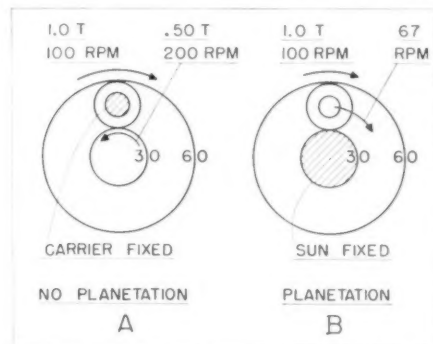

Fig. 11 A simple planetary gearset
Fig. 11(A) shows a planetary set with ring input, sun-gear output, and the carrier held stationary. With an input of one unit of torque at 100 rpm we have an input horsepower of  $1 \times 100 = 100$  percent. Since the relative speed of the ring and carrier is 100 rpm, the horsepower at the ring gear mesh is also  $1 \times 100 = 100$  percent of input.
In Fig. 11(B) the sun gear is held stationary instead of the carrier. The input torque is again 1.0 at 100 rpm, but the carrier turns at 67 rpm instead of standing still. The relative speed of the
In a planetary transmission having two or more planetary sets compounded, the two sets can be calculated as in Fig. 11. With two or more planetary sets coupled in differential relationship, the sun, ring and planet carrier of one set all rotate at different speeds. This requires tracing the torque paths in order to determine the torque and relative speeds for each set.